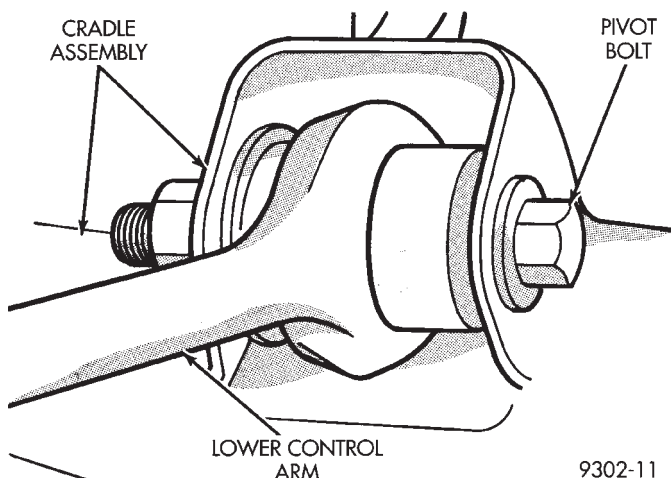

Fig. 37 Lower Control Arm Pivot Bushing Bolt
(3) Install the wheel and tire assembly.
(4) Tighten the wheel mounting stud nuts in proper sequence until all nuts are torqued to half specification. Then repeat the tightening sequence to the full specified torque of 129 N·m (95 ft. lbs.).
(5) Lower the vehicle to the ground so the suspension is supporting the full weight of the vehicle (control arm at design height). Tighten the lower control arm pivot bushing attaching bolt (Fig. 37) to a torque of 123 N·m (90 ft. lbs.).